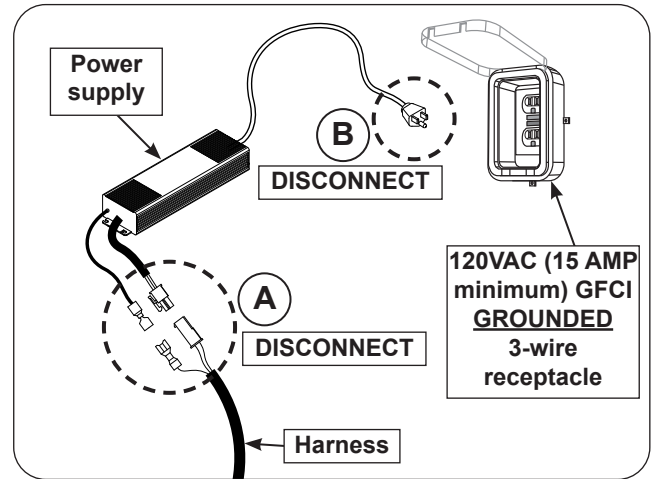

Fig. 48-1 Perform system reset
2. Disconnect the harness from the power supply (see Fig. 48-1, A).
3. Disconnect the power supply from the power source. (see Fig. 48-1, B).